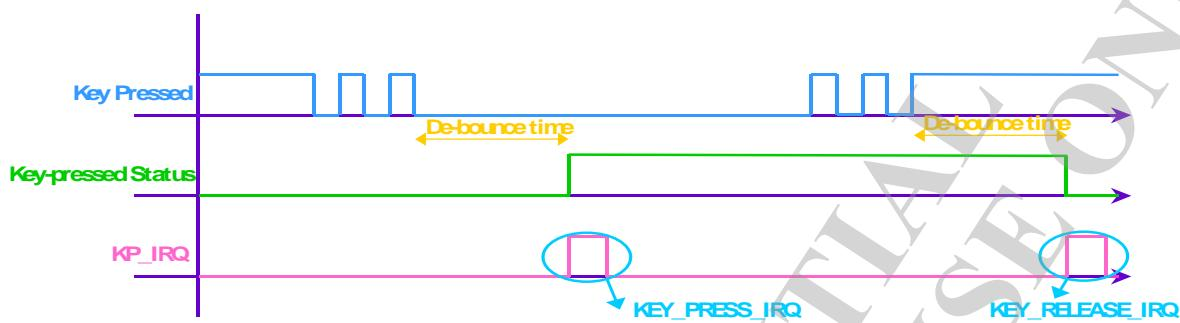
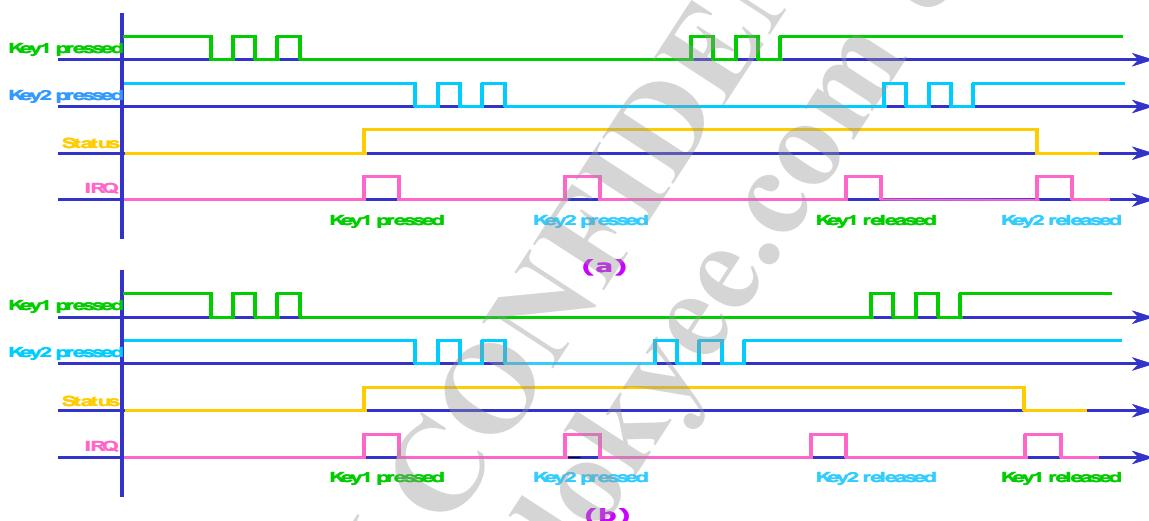

Figure 27. One key pressed with de-bounce mechanism denoted
Figure 28. (a) Two keys pressed, case 1; (b) Two keys pressed, case 2
This keypad can detect one or two keys pressed simultaneously. Figure 27 shows the one key pressed condition. Figure 28(a) and Figure 28(b) illustrate the two keys pressed cases. Since the key pressed detection depends on the HIGH or LOW level of the external keypad interface, if the keys are pressed at the same time and there exists a key that is on the same column and the same row with other keys, the pressed key cannot be correctly decoded. For example, if there are three key pressed: key1 = (x1,